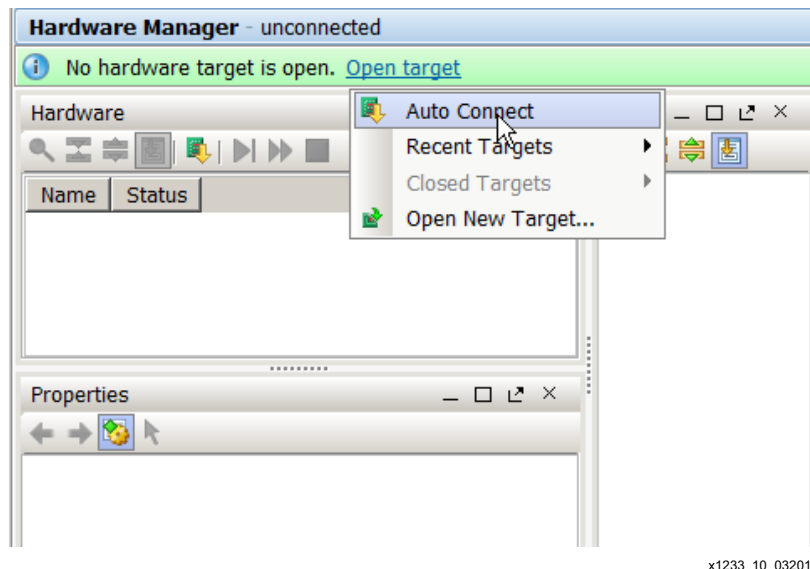

Figure 10: Hardware Manager
- Open and connect to the hardware target by clicking on the **Open Target** link in the Hardware Manager pane and then selecting **Auto Connect** as shown in Figure 10.